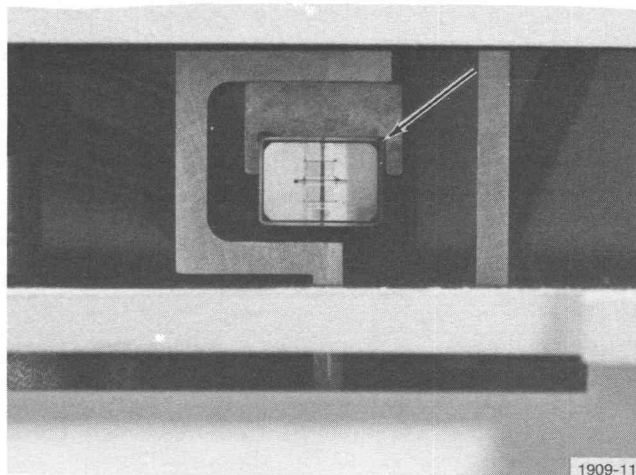
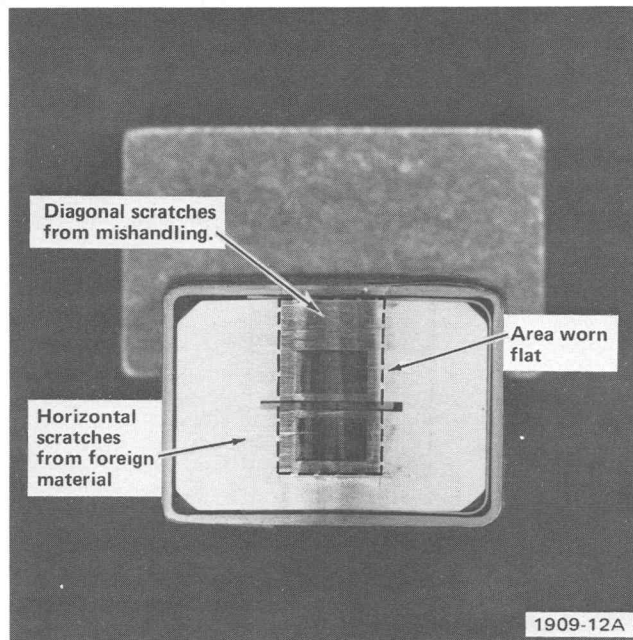

Fig. 3-8. Tape head location.
Fig. 3-9. Tape head damage.
Cleaning the Tape Head. The surface of the tape head (Fig. 3-8) must be kept clean in order to accurately read and write data to and from the tape. Tape head life and data reliability are directly related to Cartridge care (see Section 2) and tape head care. Oxide deposits from the tape, along with dust and other foreign particles, may be deposited on the tape head during operation. This alone may cause data errors by increasing the space between the tape and the head. In addition, these particles act as abrasives when propelled across the head by tape motion, thus increasing head wear and reducing head life.
1. Inspect the head (Fig. 3-8) by shining a light, such as a penlight, across the surface of the head at an angle. This will reveal accumulations of foreign material, and will also reveal damage to the head. If the head is scratched, scored, or excessively worn (Fig. 3-9), it should be replaced; refer to the optional Service Manual for removing and replacing the Read/Write Head. If the head is dirty, continue with this procedure.